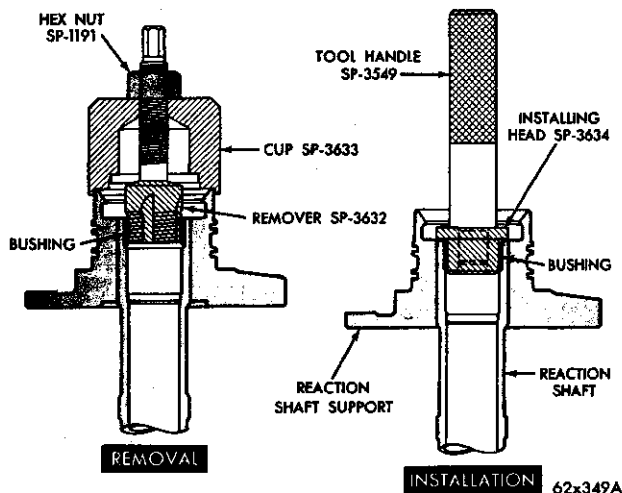

Fig. 67—Replacing Reaction Shaft Bushing
(2) With the cup held firmly against the reaction shaft, thread the remover into the bushing as far as possible by hand (Fig. 67).
(3) Using a wrench, screw the remover into the bushing 3 to 4 additional turns to firmly engage the threads in the bushing.
(4) Turn the hex nut down against the cup to pull the bushing from the reaction shaft. Thoroughly clean the reaction shaft to remove the chips made by the remover threads.
(5) Lightly grip the bushing in a vise or with pliers and back the tool out of the bushing. Be careful not to damage the threads on the bushing remover.
(6) Slide a new bushing (chamfered end first) on the installing head Tool SP-3634, and start them in the bore of the reaction shaft.
(7) Support the reaction shaft upright on a clean smooth surface and install handle Tool SP-3549 in the installing head (Fig. 67). Drive the bushing into the shaft until the tool bottoms.
(8) Thoroughly clean the reaction shaft support assembly before installation.